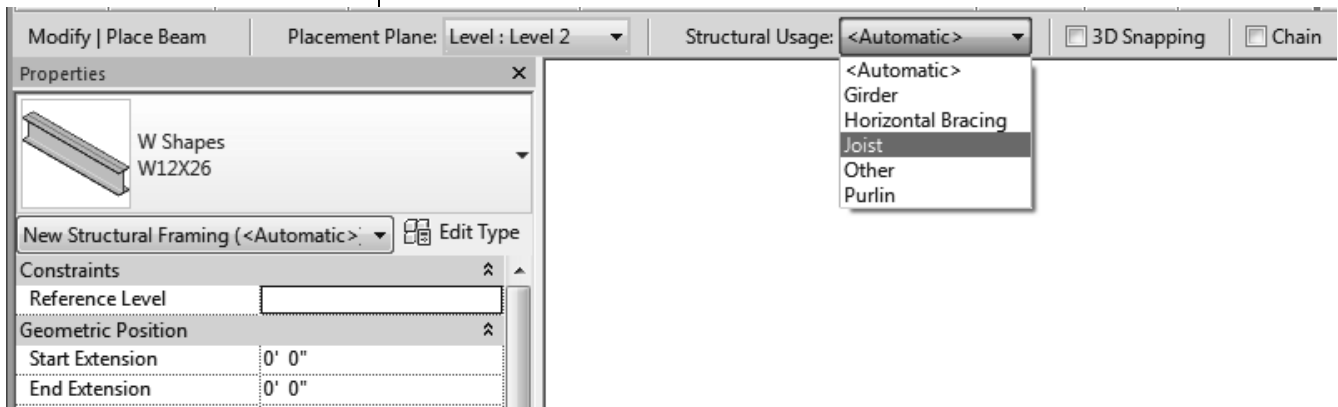

Figure 7–3
- **Structural Usage:** Select a type (as shown in Figure 7–3), or accept the default of **<Automatic>**.